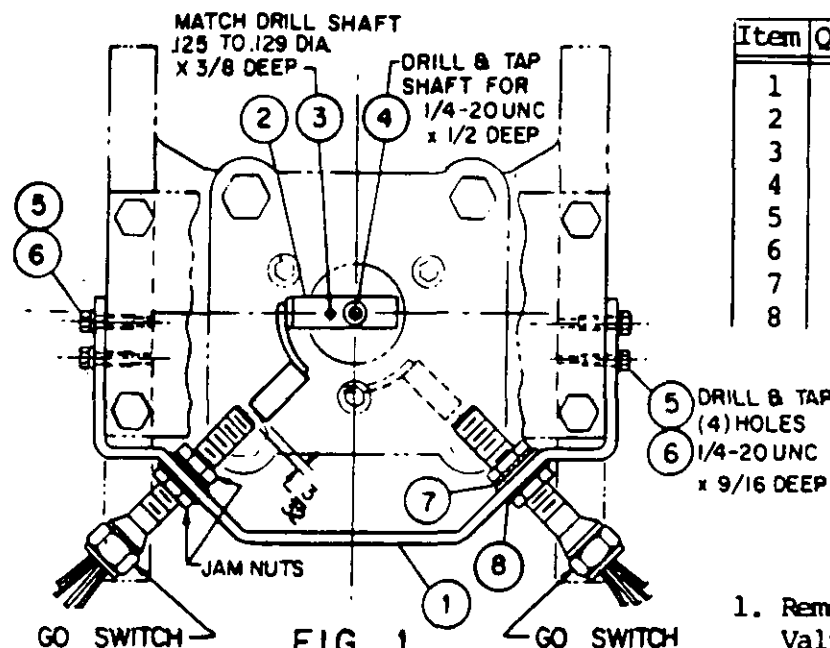

FIG. 1
4. Place Switch Activator (item 2) on shaft and secure with flat head screw (item 4). Then orient Switch Activator as shown in figure 1. Match drill shaft with hole in Switch Activator and drive rollpin (item 3) into hole to prevent rotation.
5. Fit Mounting Bracket (item 1) to sides of Actuator mounting plate support and mark location of four mounting holes, drill and tap four 1/4-20UNC x 9/16 dp. Then secure Mounting bracket (item 1) with items 5 & 6.
6. Insert GO® Switches into slots on Mtg. Bracket (item 1) and secure with two jam nuts that come with switches and washers items 7 & 8.
7. Adjust Switches to sense Activator (item 2) in full open and full closed positions.